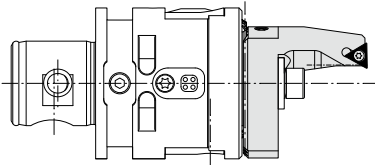

Fig. 8
**Outside tuning insert holders without serrated slide Ø 4 – 66 mm (Ø .157" – 2.598") (Fig. 8, 9)**